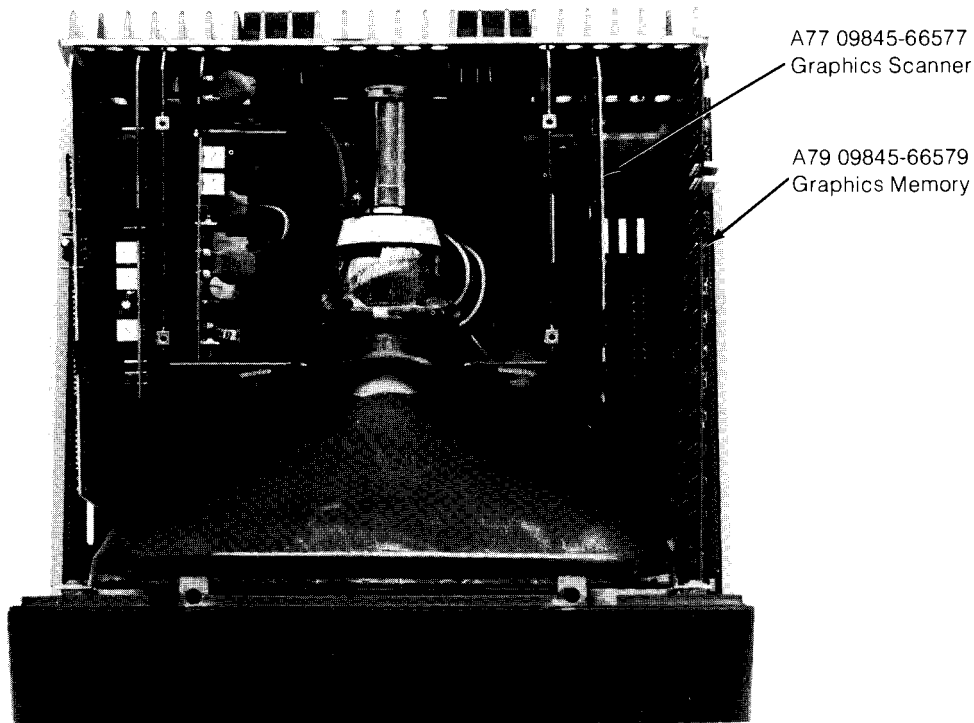

Figure 1-13: Graphics Assemblies Installation
- Remove the pc assembly holding plates and install A77 and A79 assemblies in their pc assembly slots (see Figure 1-13).